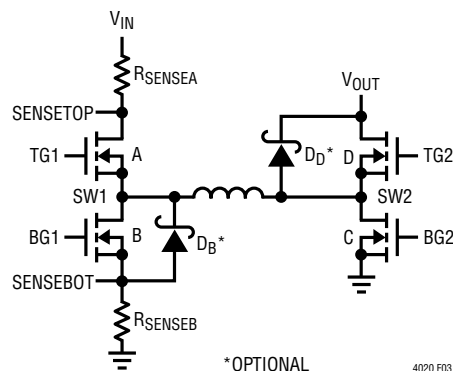

Figure 3. Converter Switch Diagram
As shown in Figure 3, when  $V_{IN}$  is higher than  $V_{OUT}$  during step-down (buck) operation, switches A (driven by pin TG1) and B (driven by pin BG1) perform the PWM required for accommodating power conversion. Ideally, switch D (driven by pin TG2) would conduct continuously and switch C (driven by pin BG2) would stay off, making PWM switching action much like that in a synchronous buck topology. Switch D uses a bootstrapped driver, however, so switch C conducts for a minimum on time of 150ns each cycle to refresh the driver and switch D is disabled to accommodate this refresh time. A 75ns non-overlap period separates the conduction of the two switches preventing shoot-through currents.
Figure 3 shows a simplified diagram of the four power switches and their connections to the IC, inductor,  $V_{IN}$ ,  $V_{OUT}$ , ground, and current sense elements.
The LTC4020 performs inductor current sensing via two resistors connected in series with the  $V_{IN}$  side switches (see Figure 3). The high side sense resistor ( $R_{SENSEA}$ ) is connected between  $V_{IN}$  and the drain of the top side switch FET (A). Both nodes on the sense resistor must be Kelvin connected to the IC via the pins  $SENSV_{IN}$  and  $SENSTOP$ . Likewise, the low side sense resistor ( $R_{SENSEB}$ ) is connected between the source of the bottom side switch